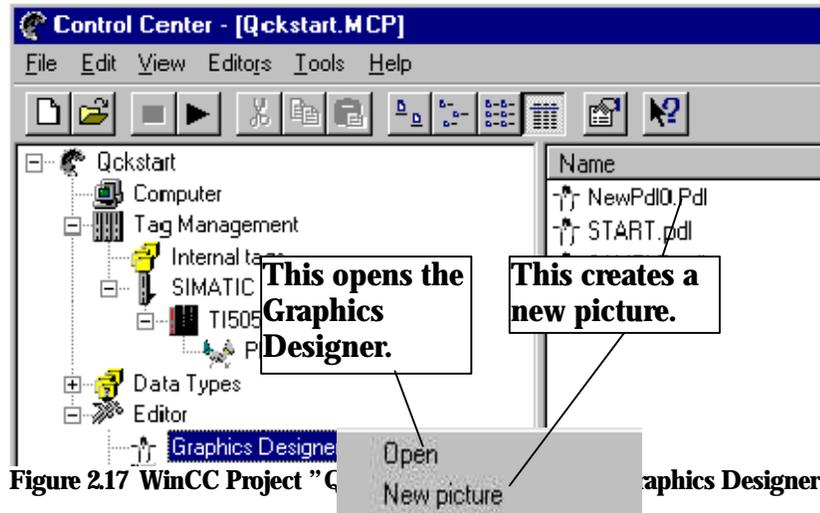

Figure 2.17 WinCC Project "Qckstart.MCP" Graphics Designer
2. Select the object menu with the right mouse click and choose "New picture". See Figure 2.17.